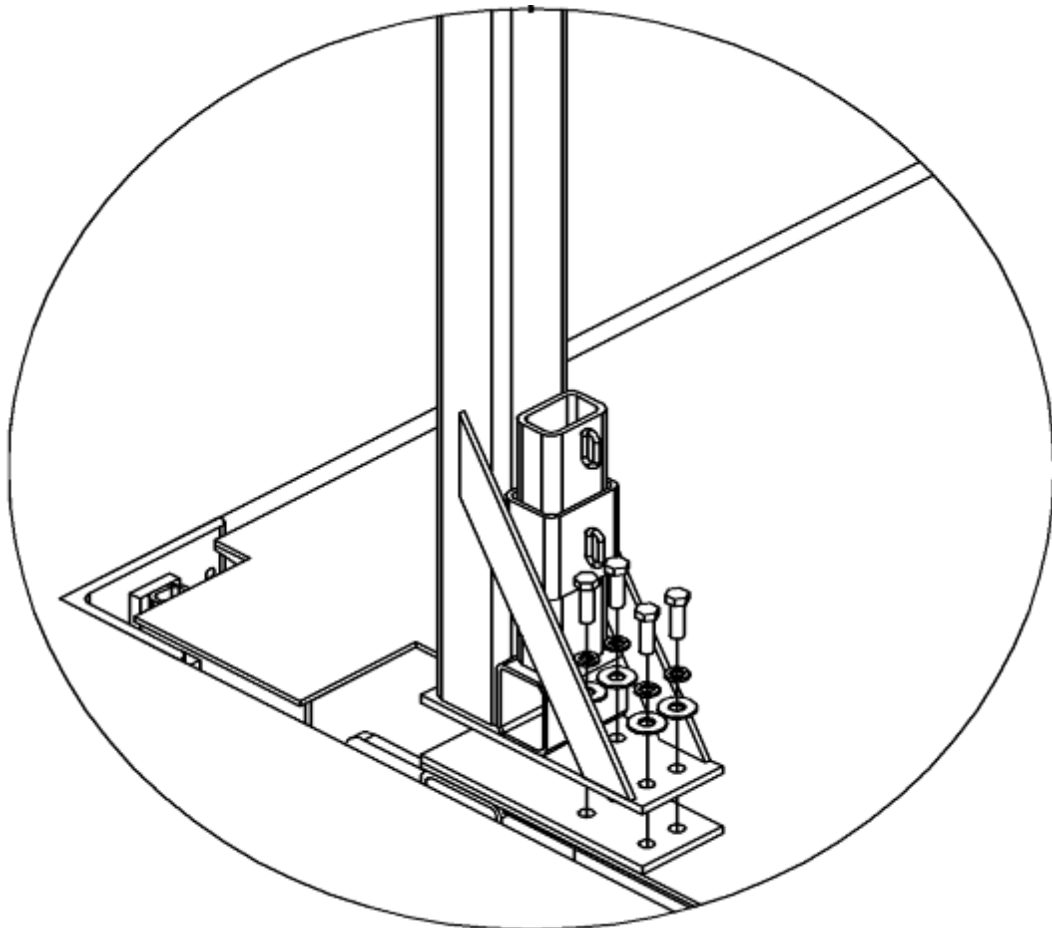

Figure 14 Attaching Canopy Posts – Typical (4) Places
B. ATTACHING THE CANOPY POSTS (Reference Figure 14)